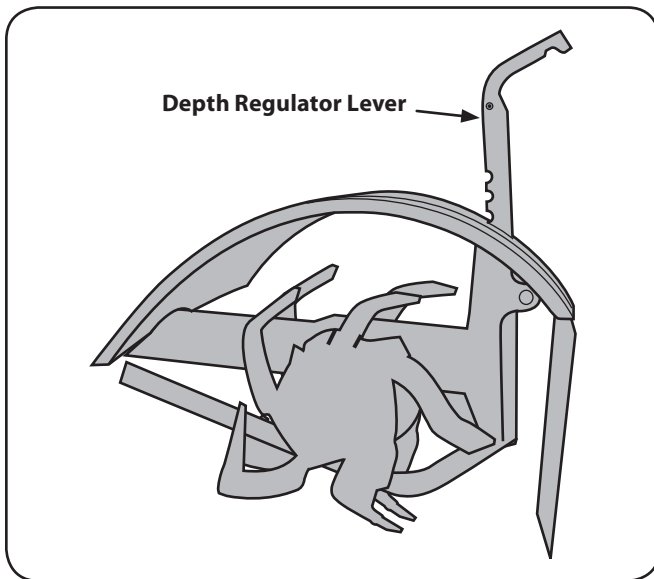

Figure 3-5
1. With the tiller on level ground, pull the Depth Regulator Lever back and then all the way up until the lowest notch in the lever is engaged. See Fig. 3-5.